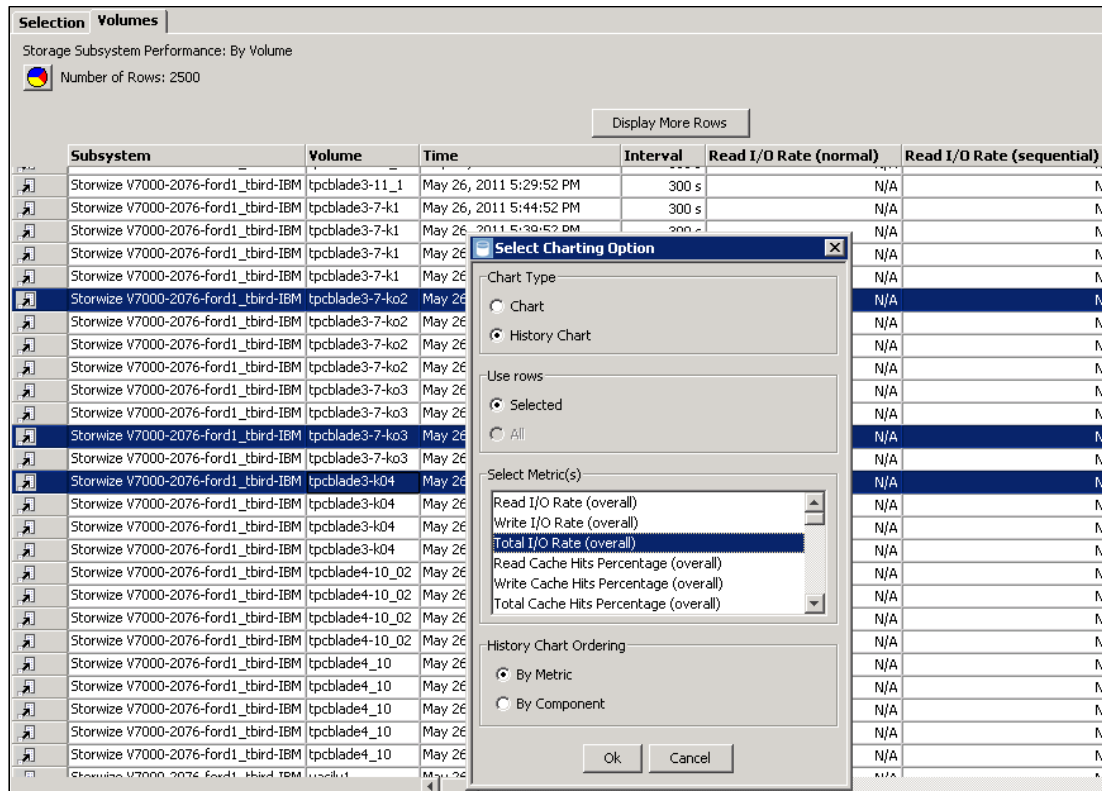

Figure 13-119 Total I/O rate selection for three volumes
- c. In the Select Charting Option window (see Figure 13-119), select **Total I/O Rate (overall)**, and then click **OK** to generate the chart.